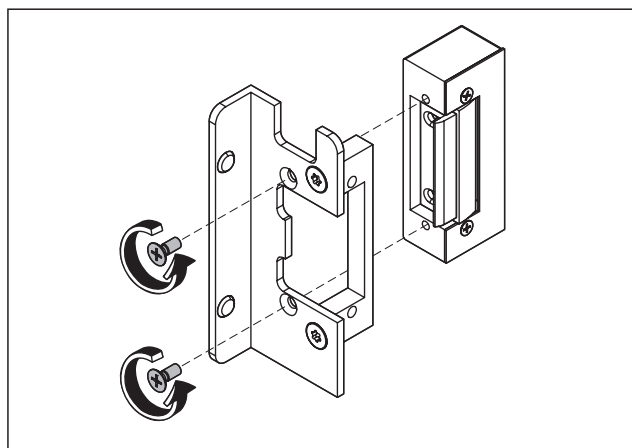

Fig. 47 Disassembling the electric strike release
3. Unscrew the screws and disassemble the electric strike release (Fig. 47).